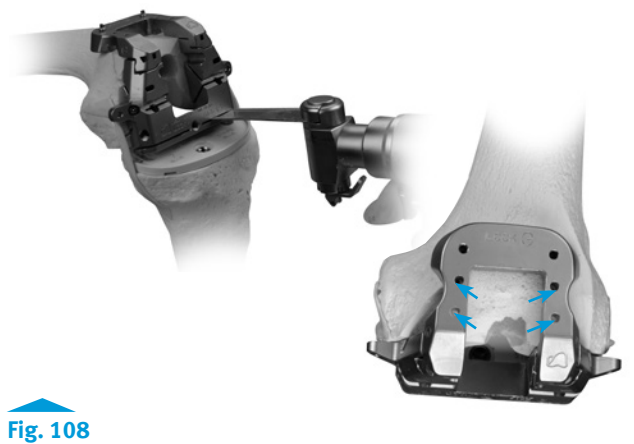

Fig. 108
- Use the oscillating saw to cut the posterior condyles (Fig. 108).
- If screws were used in the first two sets of holes on the LCCK Notch Cut Guide, remove them before making the anterior chamfer cut (Fig. 108).